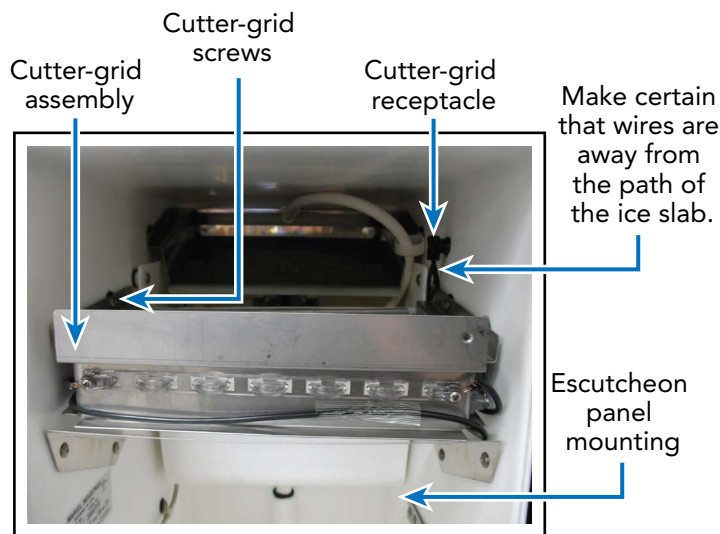

Figure 19
2. Unplug the cutter-grid from the receptacle on the side of the liner (see **Figure 19**).
3. Remove the four screws that secure the cutter-grid to the liner (see **Figure 19**).
2. Plug the cutter-grid into the receptacle on the side of the liner. Route the plug wire between the reservoir and liner (see **Figure 19**). This will keep it away from the path of an ice slab.
2. Remove cutter-grid (see **Figure 19**).